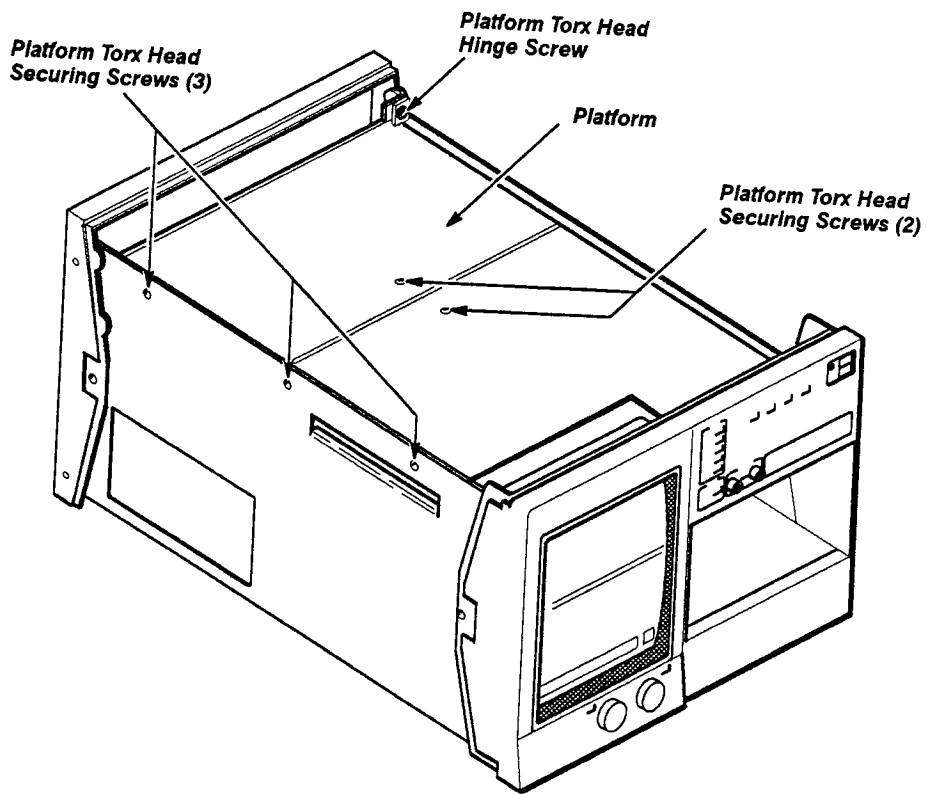

Figure 1, - Platform removal.
- 2. Remove the six (6) Torx drive screws (three on each side) that secures the platform to the sides of the instrument. Refer to Figure 1, Platform Removal.
- 3. Remove the two (2) Torx drive screws that are located on the top of the platform. Refer to Figure 1, Platform Removal.